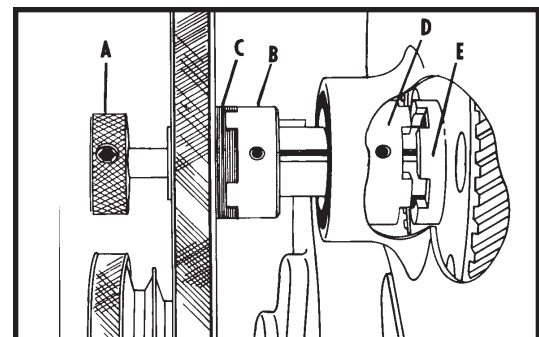

Fig. 57
When using the machine for cutting wood (3000 SFM), pull the shifter knob (A) Fig. 57 all the way out so that the lugs of the clutch (B) are engaged with the hub (C) of the drive pulley. This action will disengage the clutch (D) from the hub (E) of the gear that transmits power through the gear box. It may be necessary to rotate the pulley manually in order to line up the clutch lugs with the slots in the hub of the pulley. This action provides a direct drive from the motor pulley to the drive pulley, by-passing the gear box.